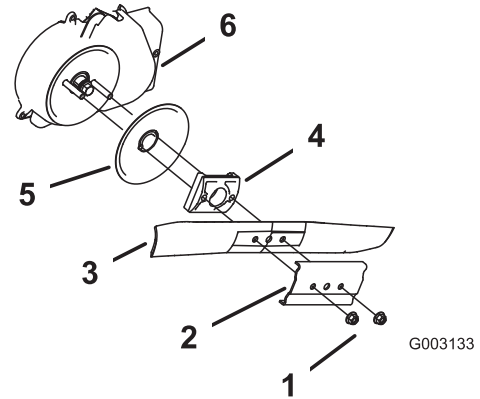

Figure 30
3. Remove the 2 blade nuts and the stiffener (Figure 30).
4. Remove the blade (Figure 30).
5. Remove the blade driver and disk (Figure 30).
6. Remove the blade brake-clutch shield (Figure 30).
10. Install the blade and the stiffener that you previously removed (Figure 30).